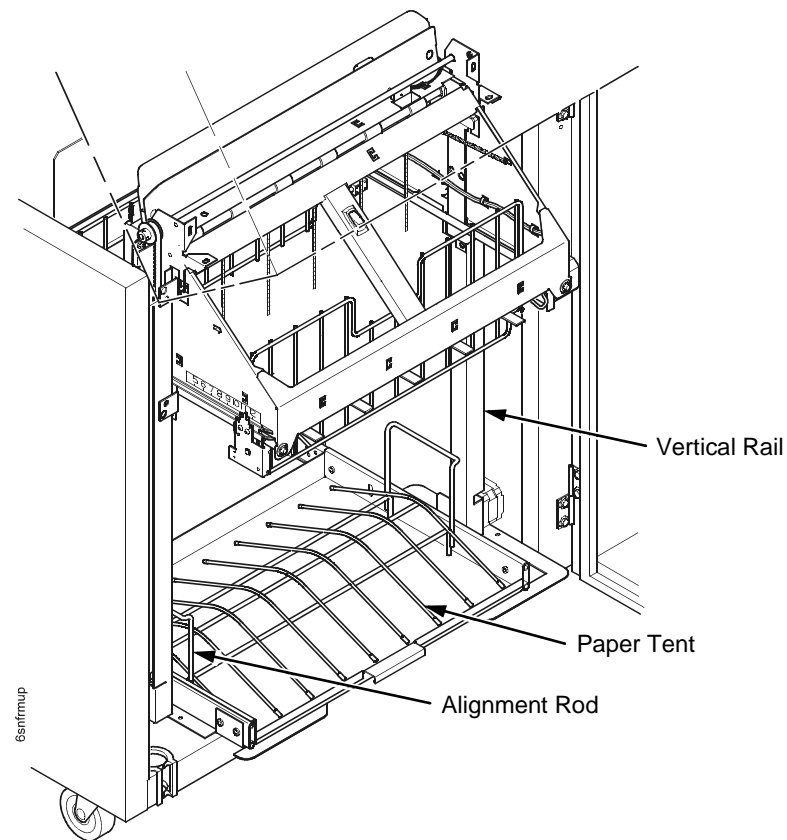

Figure 72. This figure shows where to place the the paper tent.
5. Make sure the wire paper tent is in the base of the stacker with the alignment rods against the vertical rails. (Figure 72.)